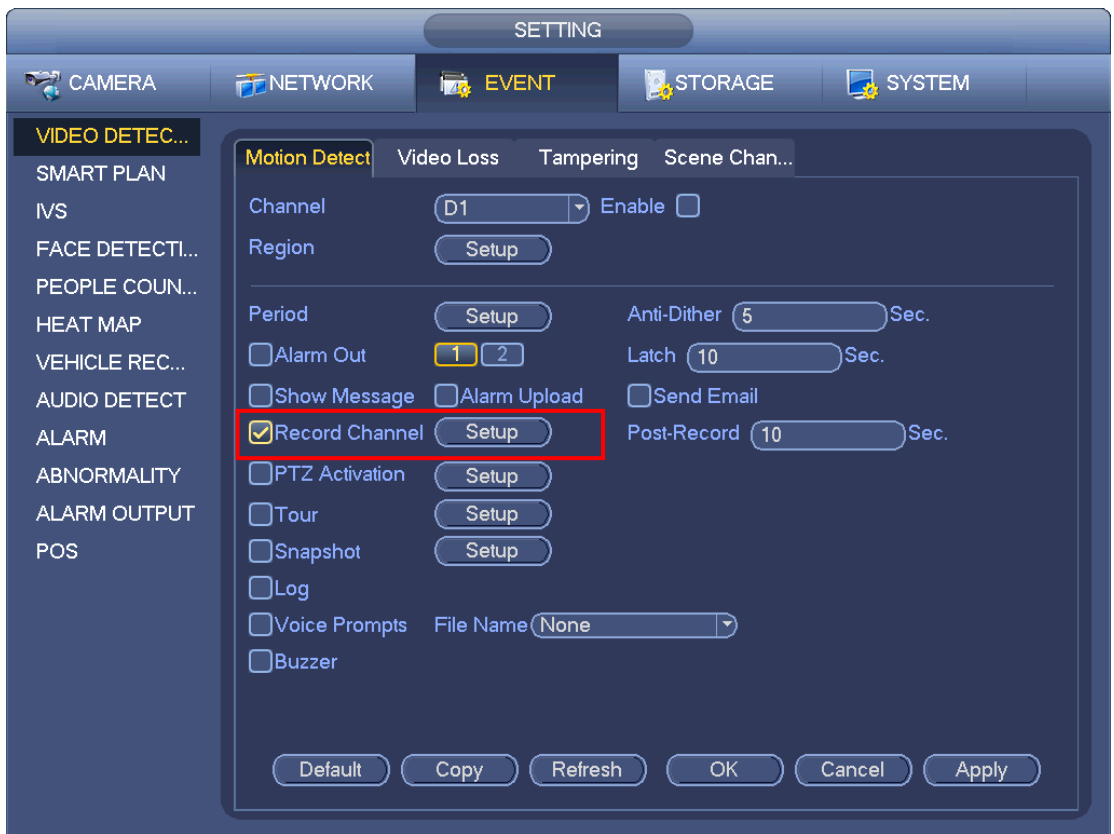

Figure 4-27
- When the record type is MD (motion detect), alarm, MD&Alarm, IVS and POS, please enable the channel record function when corresponding alarm occurs. For example, when the alarm type is MD, from main menu->Setting->Event->Video Detect->Motion Detect, please select the record channel and enable record function. See Figure 4-27.